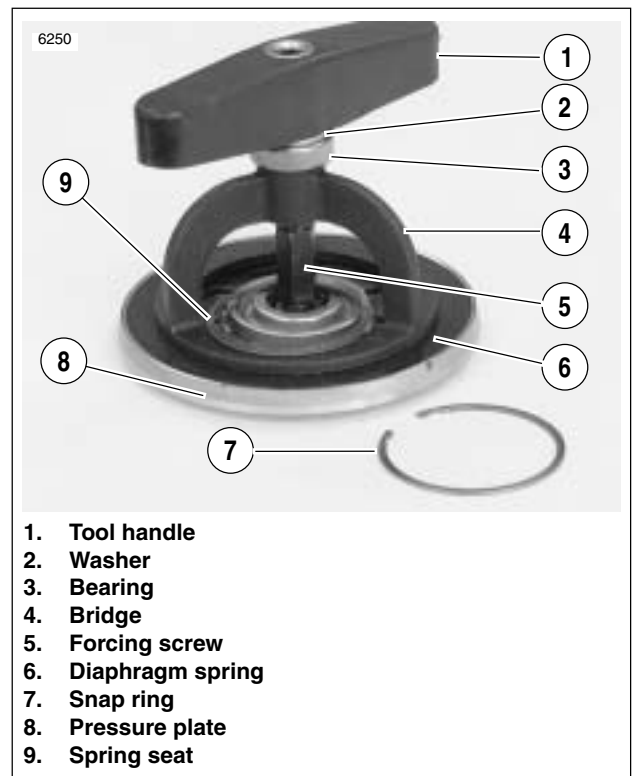

Figure 6-14. Pressure Plate Assembly
See Figure 6-14. Turn compressing tool handle only the amount required to release spring seat and remove snap ring. Excessive compression of diaphragm spring could damage clutch pressure plate.
3. See Figure 6-14. Remove pressure plate assembly.